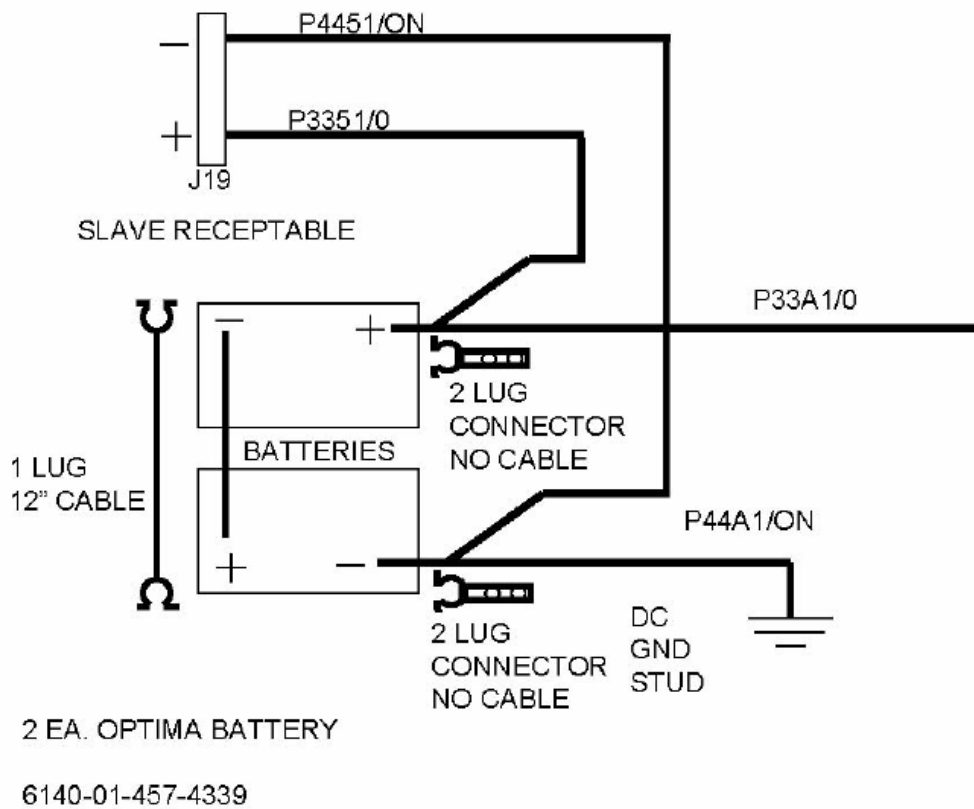

Figure 1. Optima Battery Installation
- (1) Disconnect and remove the 24-volt aircraft battery and associated tie-down hardware and vents.
- (2) Inspect installation area. Remove all signs of corrosion or rust. Touchup paint if required.
- (3) Disassemble the battery disconnect and separate the 4 cables at the lugs.
- (4) Install the first battery in the back of the battery compartment and tie down using a locally fabricated clamp or self-tapping screws through the forward base plate on the battery.
- (5) Install the second battery in the front of the battery compartment and tie down using a locally fabricated clamp or self-tapping screws through the forward base plate on the battery.
- (6) Connect the lugs on the two positive cables to a dual conductor battery terminal clamp. Repeat with the lugs on two negative (ground) cables.
- (7) Connect the positive and negative terminal clamps and the 8 to 12-inch long battery jumper cable to the two batteries as shown on Figure 1.